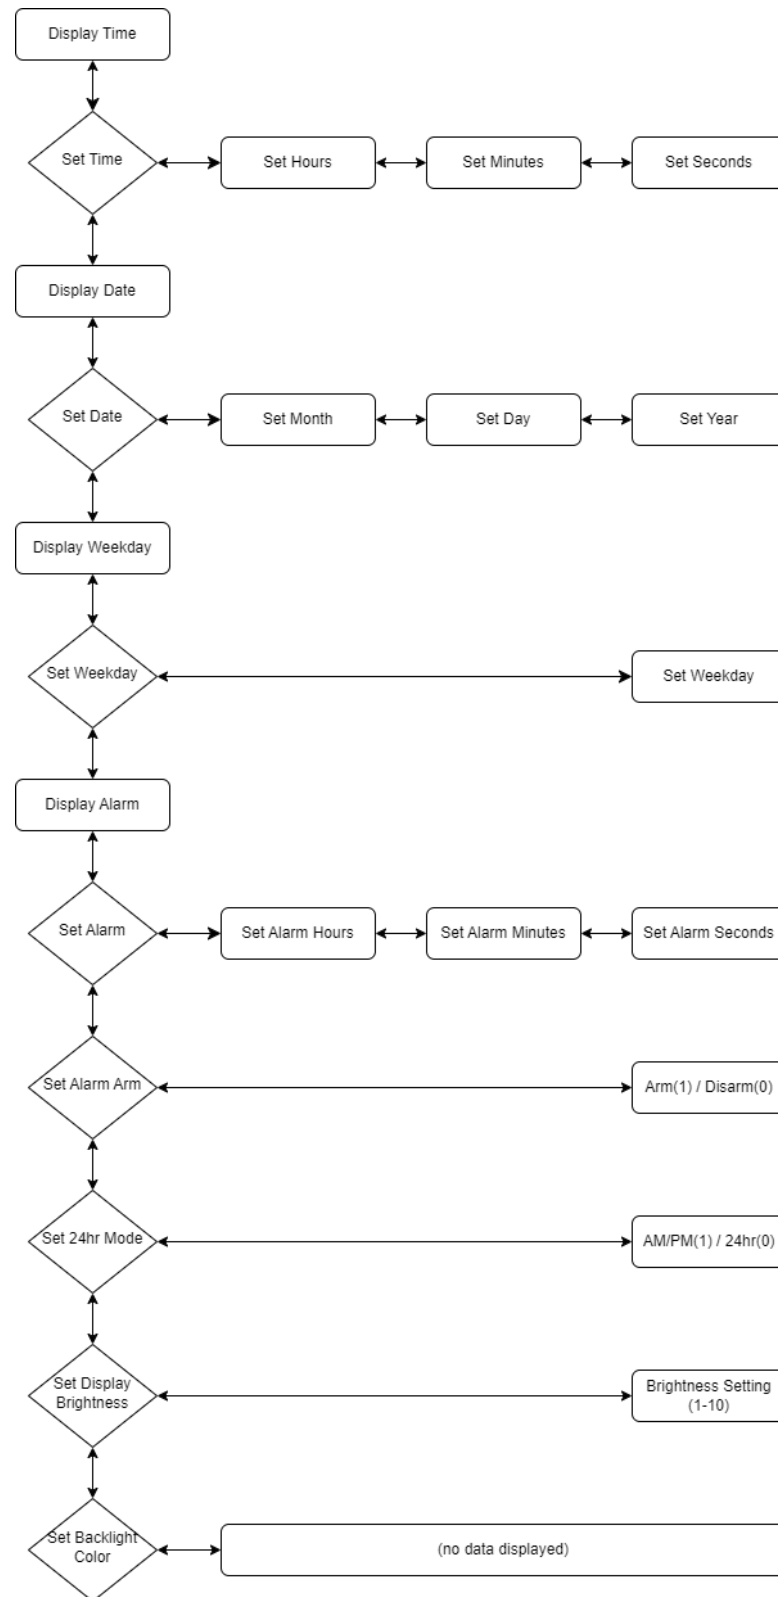

FIGURE 2: PUSHBUTTON MENUS
The up, down, left, and right pushbuttons allow for navigation through the menu displayed in Figure 2: Pushbutton Menus. The current menu item setting (leftmost column in Figure 2: Pushbutton Menus) is set using the up/down pushbuttons, and the menu item setting is displayed on the menu LEDs on the top edge of the clock. This is slightly counter-intuitive, as the menu items are visualized vertically and set using up/down pushbuttons, but the menu item LEDs are arranged left to right, for circuit layout reasons.
When navigating through the menu items using the up/down pushbuttons, the menu LEDs will update, and the data displayed on the tubes will change. The menu sub-items (the items further to the right within the menus described in Figure 2: Pushbutton Menus) can be navigated to using the left/right pushbuttons. The menu sub-item current selected for changing will blink on the tubes when it is selected. That data can then be changed using the up/down pushbuttons.
- b. Start from the “Display Time” menu item (upper-most menu item in Figure 2, no tubes will be blinking). The left-most menu LED should be illuminated
- b. Start from the “Display Time” menu item (upper-most menu item in Figure 2). The left-most menu LED should be illuminated